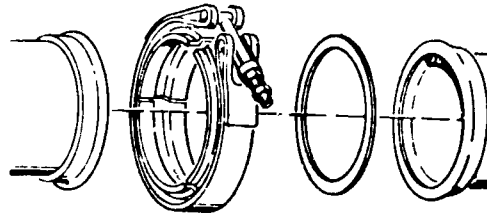

Figure 13.
- \_\_\_ 1. The coupling shown in figure 13 is used to join sections of ducting in the bleed air system.